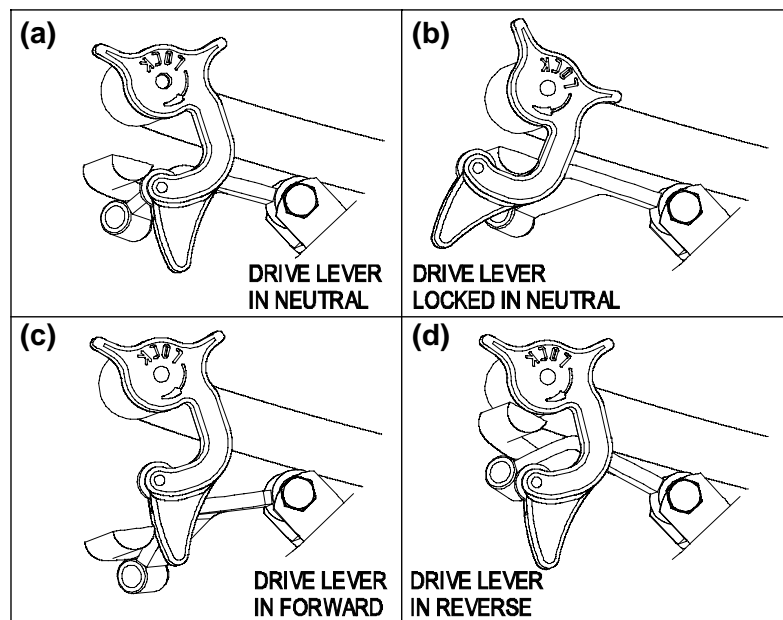

FIGURE 4
To lock the drive levers in “*neutral lock*”, squeeze the drive levers to the neutral position. See Figure 4 (a). Place thumbs on the inner lobe of the neutral lock latches and rotate them under the drive levers into the “neutral lock” position. See Figure 4 (b). Release the drive levers.
To place the drive levers in the “*forward*” position, slightly squeeze the drive levers while placing thumbs on the outer thumb lobe of the neutral lock latches (or the index finger on the front lobe) and rotate them from under the drive levers. **Slowly** and **carefully** release the drive levers. See Figure 4 (c).
To place the drive levers in the “*reverse*” position, squeeze the drive levers past the neutral position. See Figure 4 (d).
- For reverse:* Squeeze both drive levers into the reverse position (See Figure 4). For smooth operation of this machine, avoid quick, jerky movements of the drive levers. Move the drive levers smoothly and deliberately.